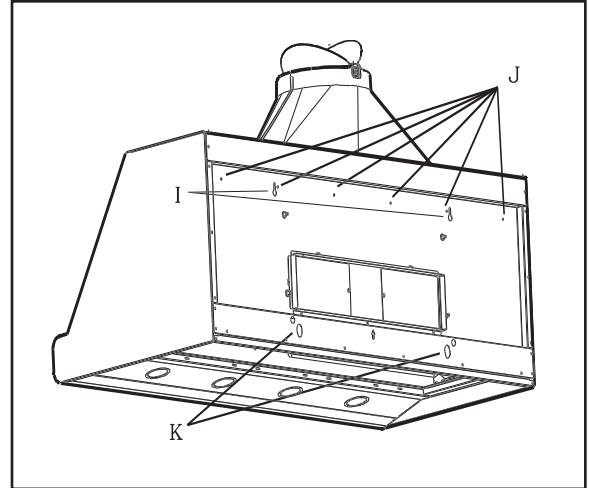

Figure 8 PHE & PH_Z
12. Hang the hood using slots I in Figure 8. Make sure the wood bracket fits into the recess on the back of the hood.